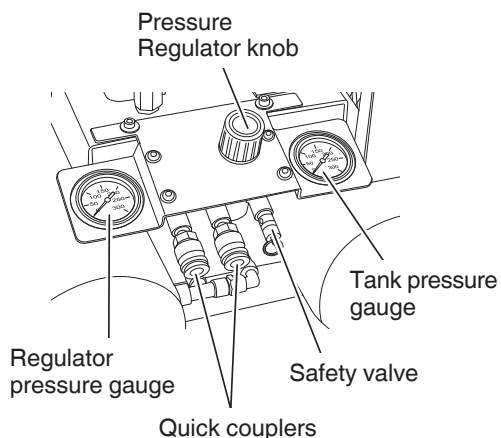

Fig. 2
- Insert the hose into the quick coupler already installed on the compressor. (Fig. 2)